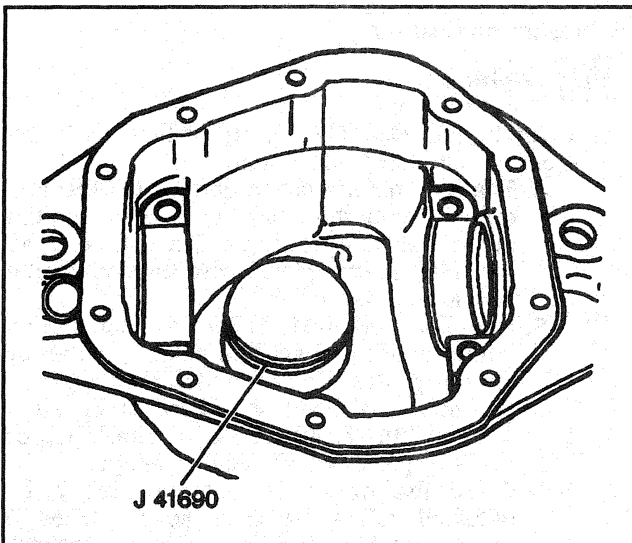

Figure 18—Master Pinion Block
5. Assemble master pinion block J 41690, pinion height block J 41689 into carrier housing using adapter cone J 41691 and screw J 41692 (Figure 18). The outer bearing cone will be used with the adapter cone and should be assembled at this time.